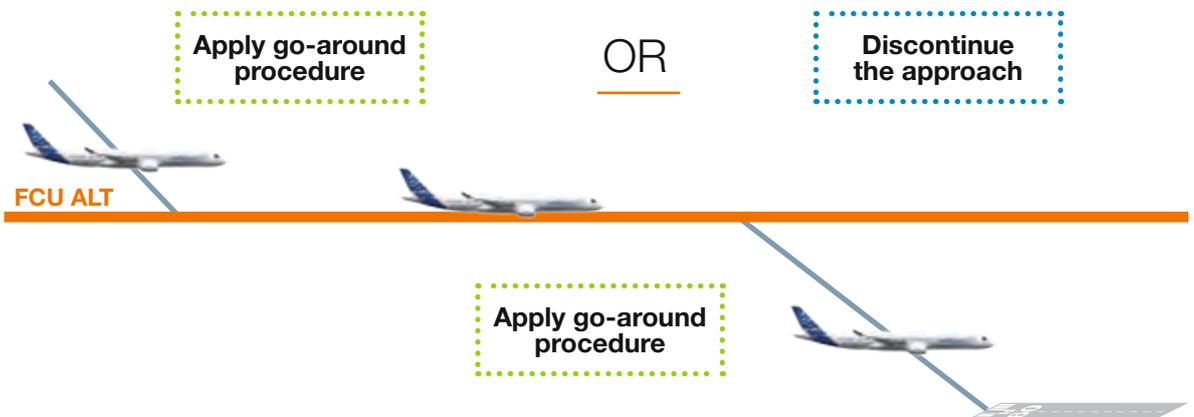

Figure 2
- At or above the FCU selected altitude: use either the go-around SOP for the Discontinued Approach Technique (fig.2)